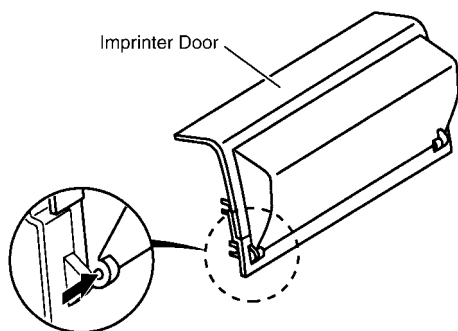

Fig. 4-12
- 1) Push the Imprinter Door, as shown in Fig. 4-12.